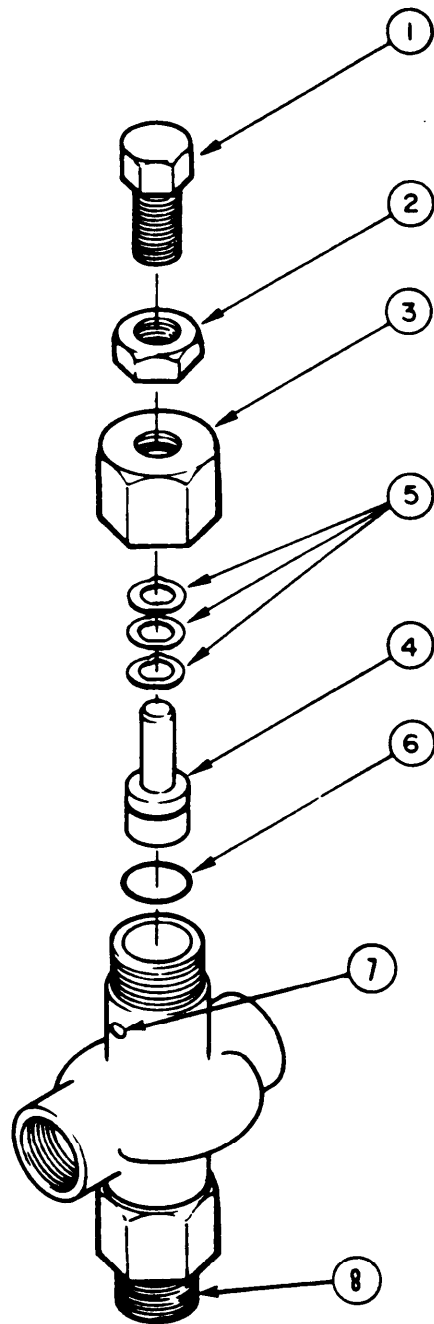

Figure 3-47. High-Pressure Relief Valve
3-39. HIGH-PRESSURE RELIEF VALVE. (Figure 3-47)
- (1) Attach valve port (8) to metered high-pressure water source.
- (2) Increase pressure gradually. Valve should open at 1100 ± 25 psi (77.33 ± 1.76 kg/cm²).
- (3) If valve fails to open between 1075 and 1125 psi (75.57 and 79.09 cm²), adjust valve:
- (a) Loosen locknut (2).
- (b) To raise activation pressure, turn adjusting screw (1) clockwise.
- (c) To lower activation pressure, turn adjusting screw (1) counterclockwise.
- (d) After adjustment, tighten locknut (2).
- (4) Reduce pressure and repeat test two more times.
- (5) If valve cannot be adjusted to specified pressure range, return valve to next higher level of maintenance.
- (6) At end of test, check weep-hole (7) for moisture. If water has seeped through weep-hole, change O-ring (6), as described in subparagraph c. below.
c. Servicing. (Figure 3-47)
- (1) Disconnect valve from water source.
- (2) Loosen locknut (2). Remove adjusting screw (1) with locknut (2) from valve cap (3).
- (3) Remove valve cap (3) from valve.
- (4) Remove keeper (4) with disc springs (5) from valve.